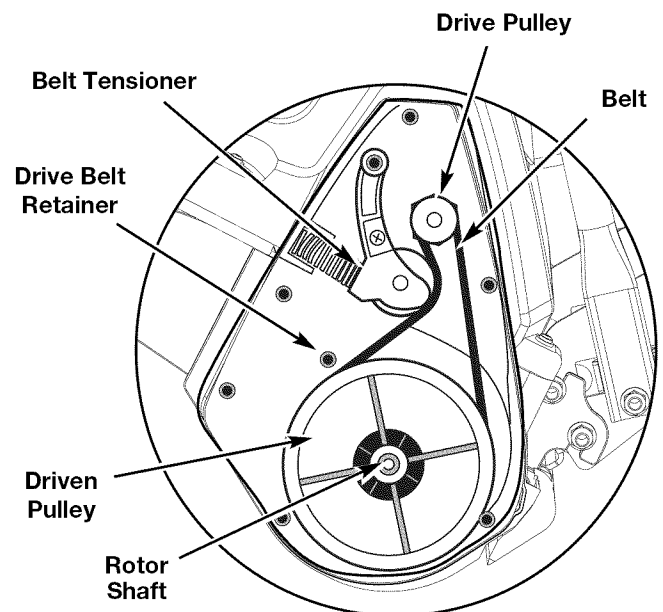

Fig. 10a
5. Reinstall the cover with the seven (7) screws. To make installation easier, place the narrow part of the cover into the recess of the housing. Install the top two screws, then push the rest of the cover down into the recess and over the rotor shaft (Fig. 10a). Torque all seven (7) screws to **18-23 in•lb (2.0-2.5 N•m)**.